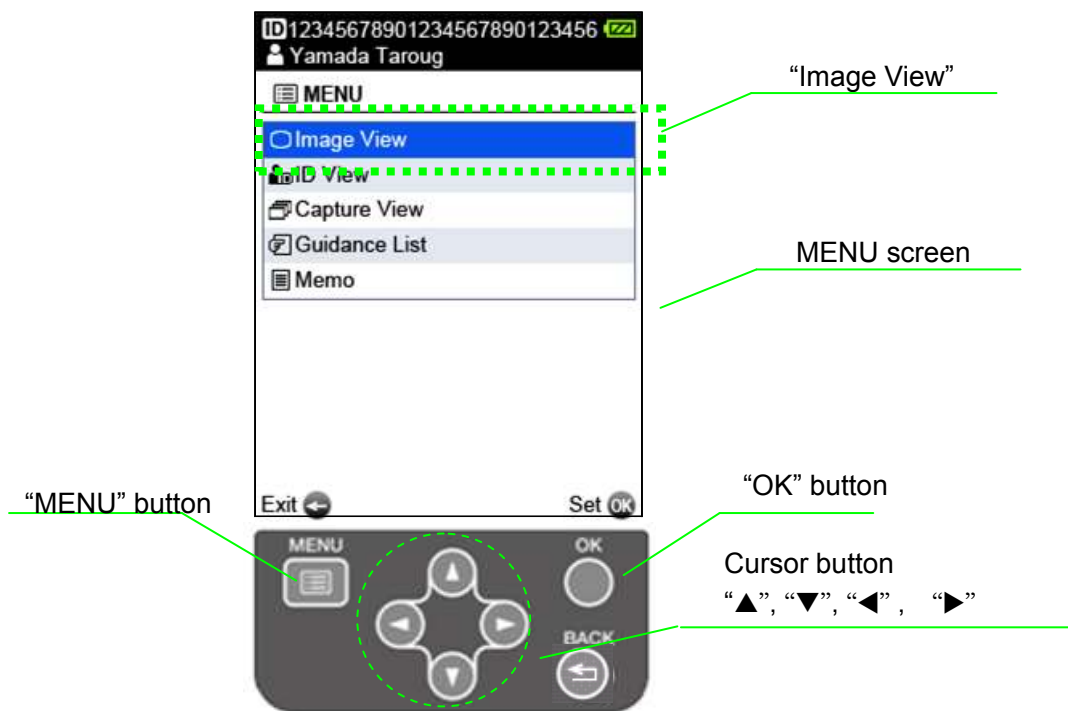

Fig 4.26
2. Choose the "Image View" by pushing "Cursor" button, and push "OK" button. (Refer to Figure 4.26)